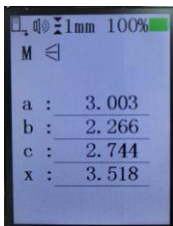

Figure 24
9.6.4 Finally measure the third side c (hypotenuse), and the measurement result is displayed in the third row; the instrument will automatically calculate the value of the fourth side x and display it in the fourth row, as shown in Figure 24;